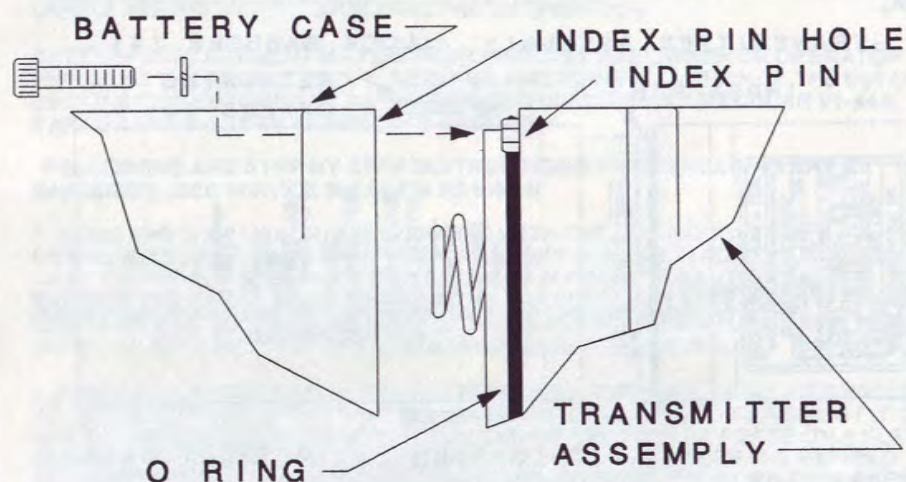

FIGURE 4
5. AFTER PERFORMING THE ABOVE VOLTAGE CHECK INSTALL THE BATTERY CASE TO THE TRANSMITTER ASSEMBLY MAKING SURE THAT THE BATTERY CASE INDEX PIN HOLE IS ALIGNED WITH THE INDEX PIN OF THE TRANSMITTER ASSEMBLY AND THE O RING SEAL IS IN PLACE. (FIGURE 4)